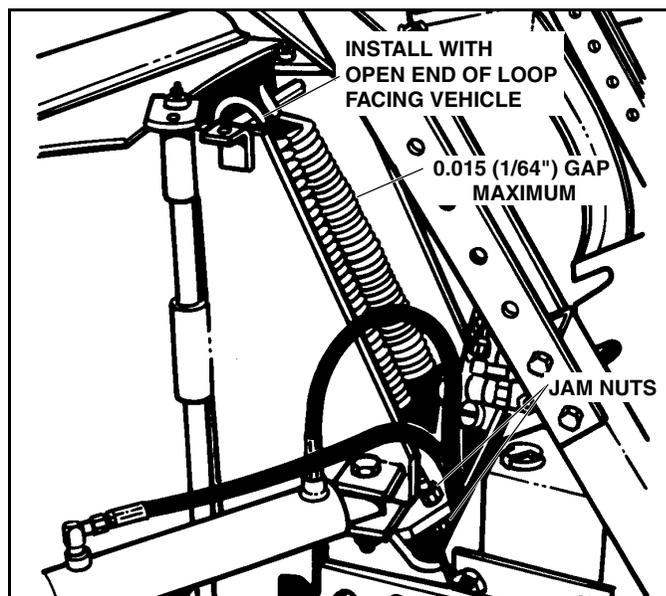

Figure 2-9
3. Check to make sure that the spring is installed as illustrated with open end of top loop facing vehicle. (See Figure 2-9).
4. Using a 15/16" socket wrench through the holes in the bottom plate of the main frame, loosen the two (2) 5/8" nuts on the trip spring eyebolts. (See Figure 2-9).